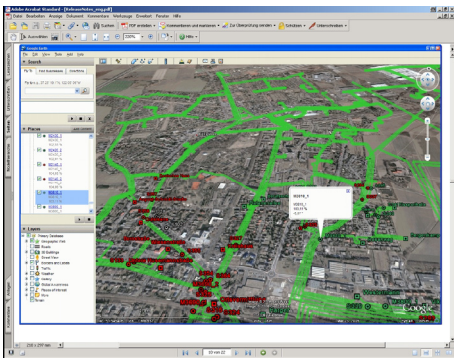

Figure 3: Exporting results to Google Earth
- Importing/Exporting: Graphics (div. file formats), Graphics to Google Earth (see Figure 3)